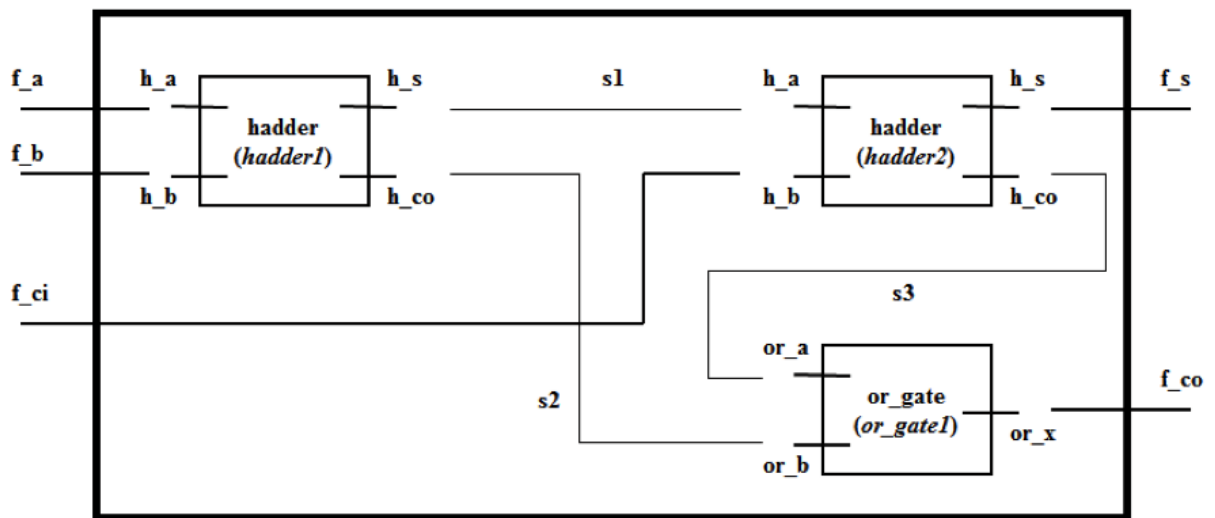

Figure 10.1: Full adder composed of half adders
- (c) Add a third architecture to the full adder using the structural style. As shown in the full adder block diagram, Figure 10.1, instantiate two `hadder` circuits and one `or_gate` circuit.